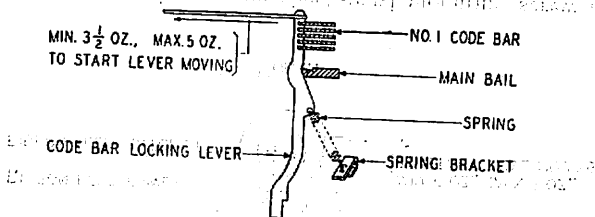

**Fig. 22**
**2.37 Left Function Pull-Bar Spring:** It should require Min. 1 oz., Max. 1-1/2 oz. to just start the pull-bar moving when the main bail is in its lowest position. **Fig. 22**